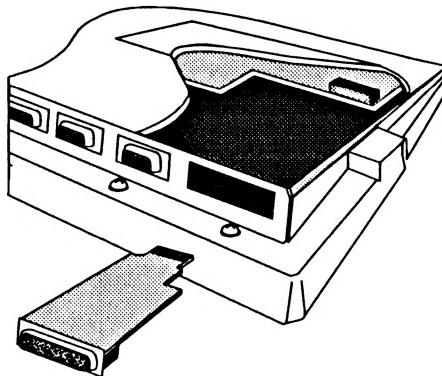

Figure 2.2 – Insert A1291 SCSI board.
- 3) Insert the A1291 SCSI board—component side down—into the expansion port opening in the Amiga's rear panel (see *Figure 2.2*).